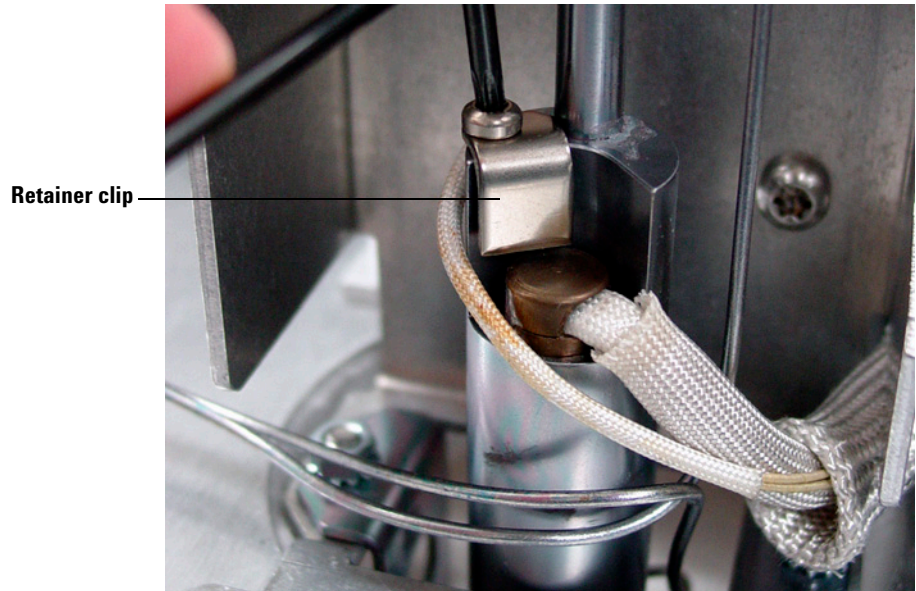

Figure 33 Transfer line heater/sensor
- 1 Use a Torx T-10 driver to remove the screw and retainer clip holding the lower heater/sensor assembly (Figure 33). Remove the heater and sensor from the transfer line.